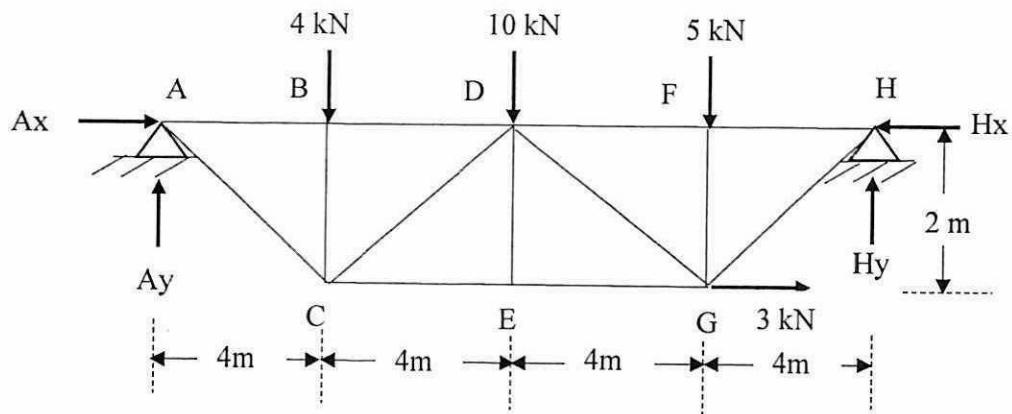

Figure Q1.1 Statically Indeterminate Truss
- Q1** Figure Q1.1 shows a statically indeterminate truss with pin supports at points A and H. Vertical external loads of 4 kN, 10 kN and 5 kN are acting on points B, D and F, respectively. A horizontal 3 kN load is acting at point G. AE is constant.